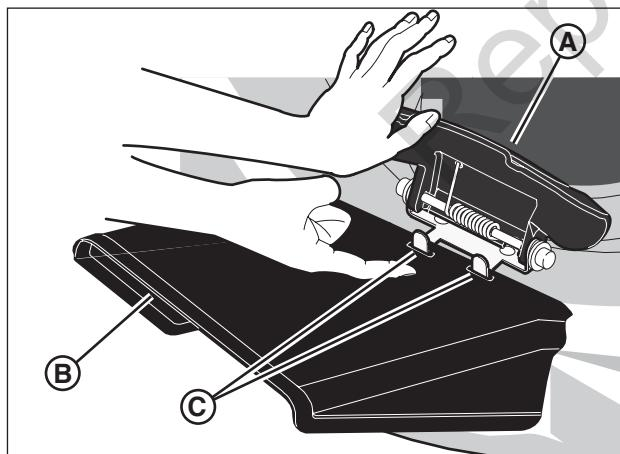

Figure 11: Installing the discharge deflector
1. Raise the mulching cover (**A**, Figure 11).